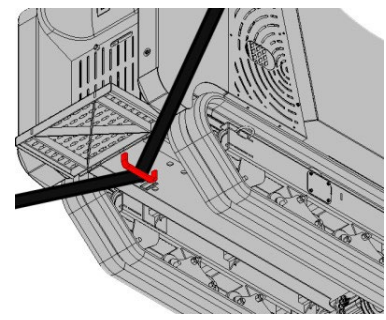

Fig 12
- Secure the machine to the vehicle or trailer tightly using fastening devices and the 6 tie down points. (*Fig, 10, 11, and 12*) Figure 12 shows tie down location under the rear of machine. Ensure that the machine will not roll or shift on its own.